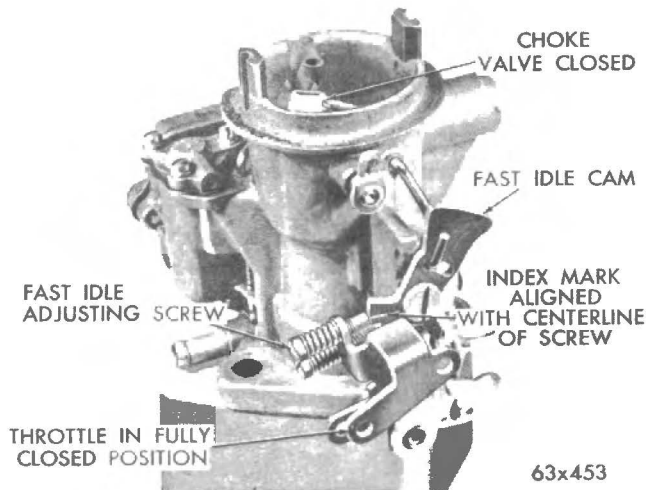

Fig. 29 - Fast idle index mark aligned.
To index the fast idle cam (carburettor removed), refer to Fig. 29 then proceed as follows:
(1) Open the throttle valve and hold the choke valve in the fully closed position. This will position the fast idle cam at fast idle index position.
(2) Now close the throttle valve. The index mark on the cam should split the centre of the fast idle adjusting screw (Fig. 29).